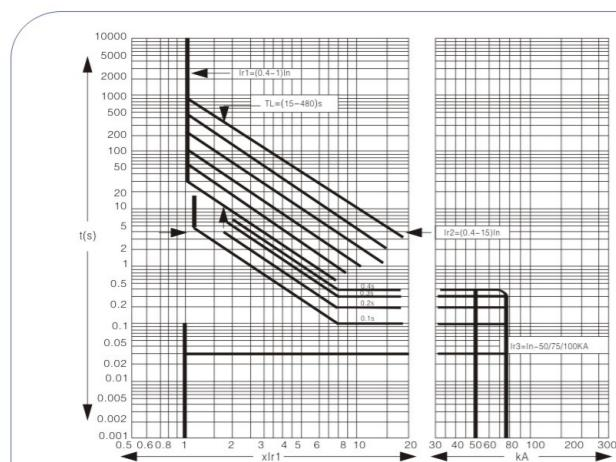
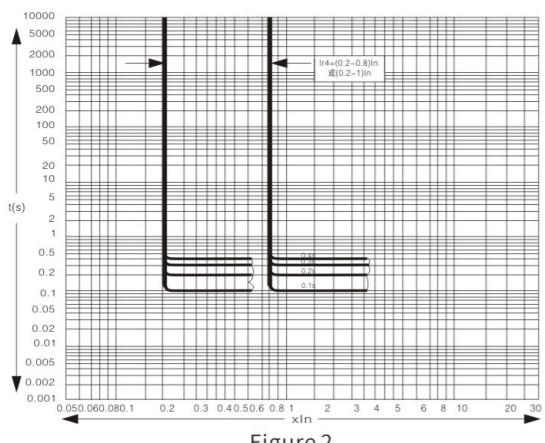

Figure 1
Figure 2
4.1.4 The overcurrent tripping protection characteristic is shown in Figure 1, and the ground fault protection characteristic is shown in Figure 2